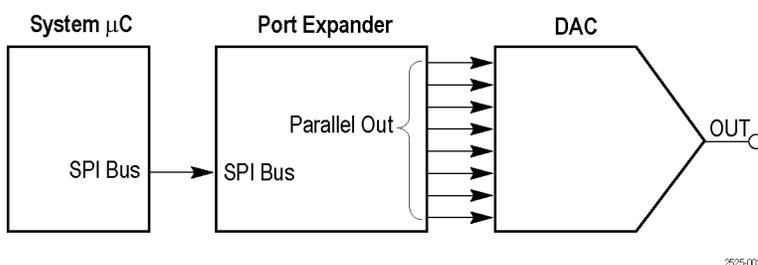

Figure 1: Mixed signal chain block diagram
**Description:** These signals are the input to the DAC. These are also the 8-bit parallel output signals of the port expander in the middle of the mixed signal chain. The sine wave data from the SPI bus is converted to 8 parallel bits to drive the DAC. DAC\_IN0 is the LSB. (See Figure 1.)
**Description:** This is the output of the DAC at the end of the mixed signal chain. The DAC is driven from the port expander. The DAC output is a sine wave. Since the output is not filtered, the digitizing levels are present in the output waveform. (See Figure 1.)